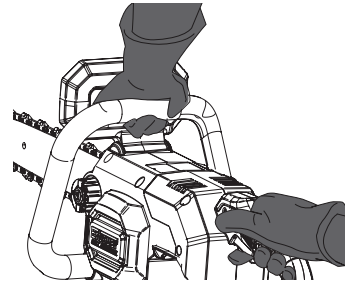

Fig. 18
1. Make sure the chain brake is disengaged. Disengage the chain brake by pulling the front safeguard (chain brake lever) (3) back towards the front handle (2).
2. Place the product on any suitable flat surface, make sure the saw chain (8) is not touching the surface or other objects.
3. Attach the battery pack (21).
4. Hold the product with left hand on the front handle (2) and right hand on the rear handle (1) (Fig. 18).
5. Press the lock-off button (14), then squeeze the on/off switch (15) to switch the product on and wait until it runs at full speed.
6. While the motor is running, engage the chain brake by rolling your left hand forward against the front safeguard (chain brake lever) (3). The saw chain (8) should stop immediately.